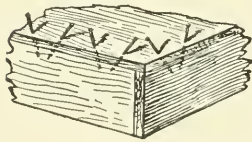

Fig. 173
59. "Toe" Nailing.—Nails hold strongest when driven slanting or "toed" (Fig. 173). Slanting the nails helps to draw one piece tightly up to another (Fig. 174), and this effect can sometimes be increased, after the